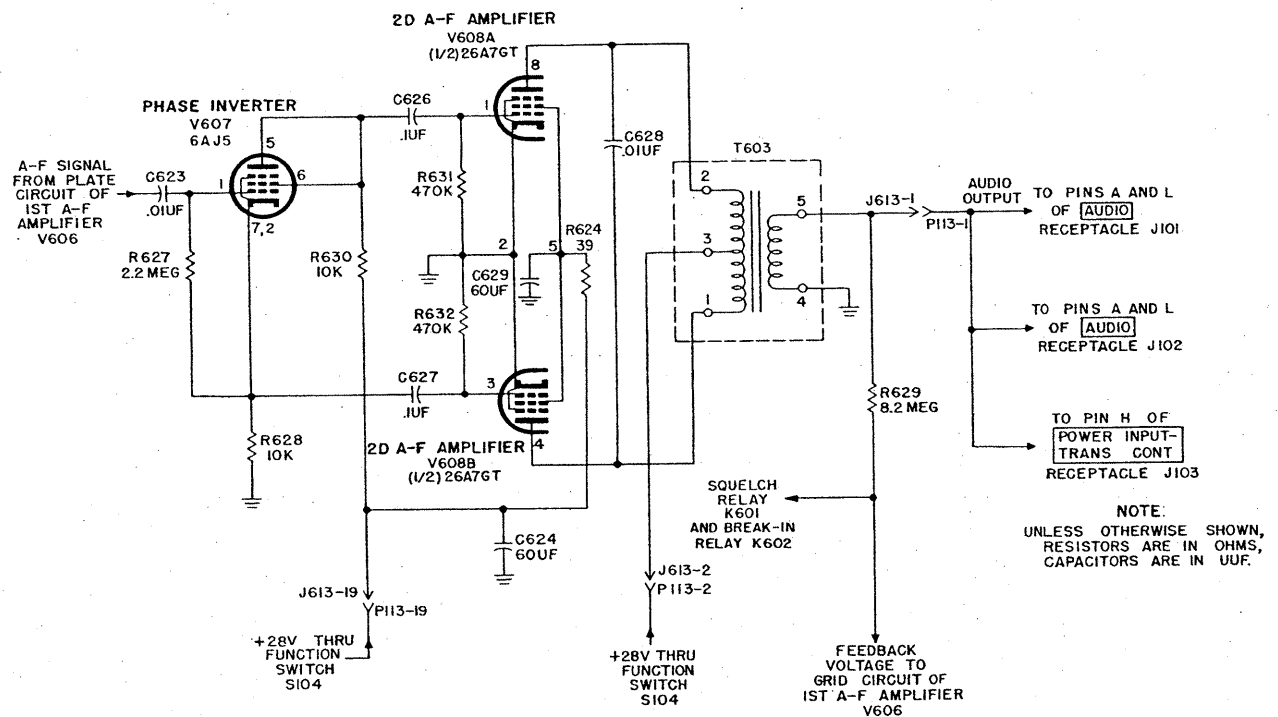

Figure 19. Phase inverter V607 and second audiofrequency amplifier V608, simplified schematic diagram.
24. Phase Inverter V607 (fig. 19)
25. Second Af Amplifier V608 (fig. 19)